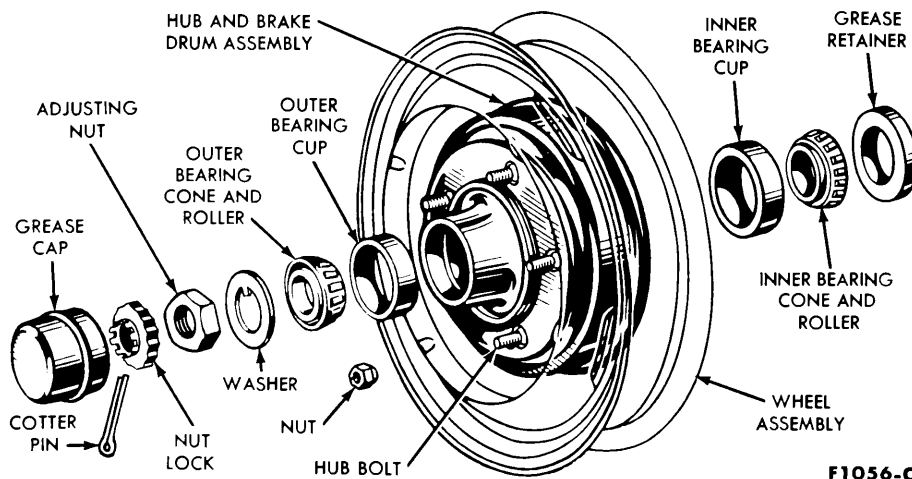

FIG. 1—Front Hub, Bearings and Grease Retainer
by the adjusting nut, nut lock and cotter pin (Fig. 1). The front wheel assemblies rotate freely on their respective spindles and are driven by the motion of the car.
2. Pry off the wheel cover and remove the grease cap (Fig. 1) from the hub.